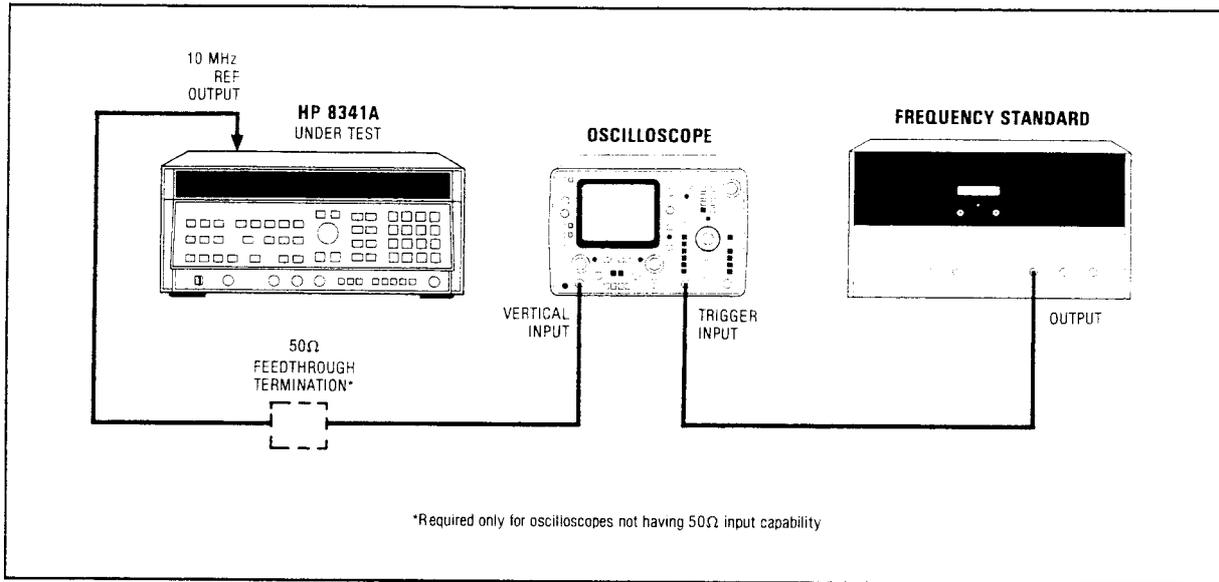

Figure 4-1. Internal Time Base Aging Rate Test Setup
1. Connect the equipment as shown in Figure 4-1.